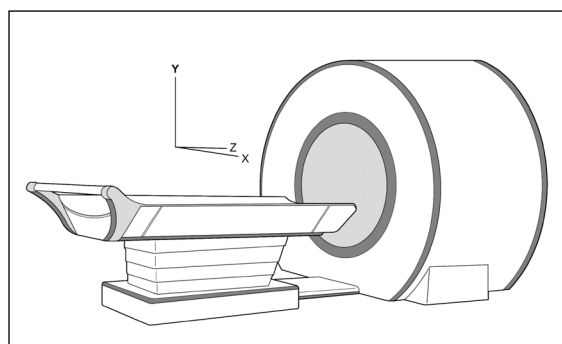

Fig. 45
- Verify the cradle can travel the full length of the “Z” axis without issue. Repeat for both mechanical and manual movement (Fig. 45).
- Verify the cradle can travel the full height of the ‘Y’axis without issue (Fig. 45).